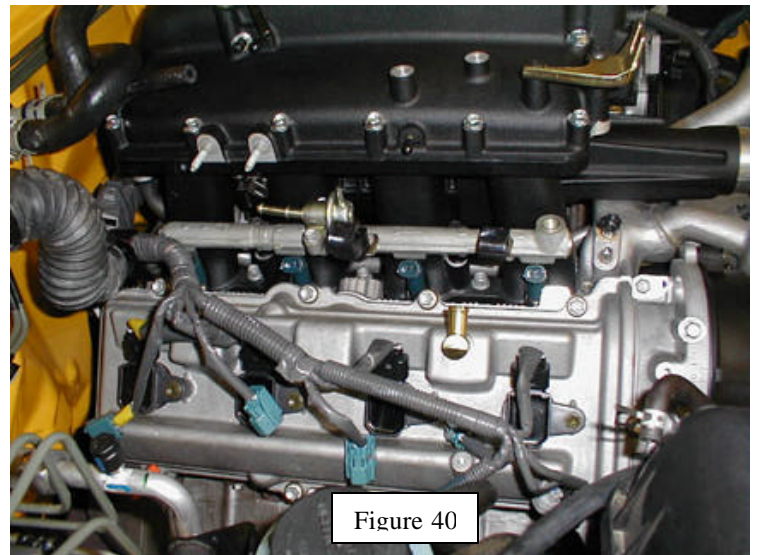

Figure 40
4. Install 4 insulators, 4 injectors and passenger-side fuel delivery pipe (Figure 40). Use OE fuel delivery pipe nuts. Torque to 7.5 N-m (66 in.-lbf).